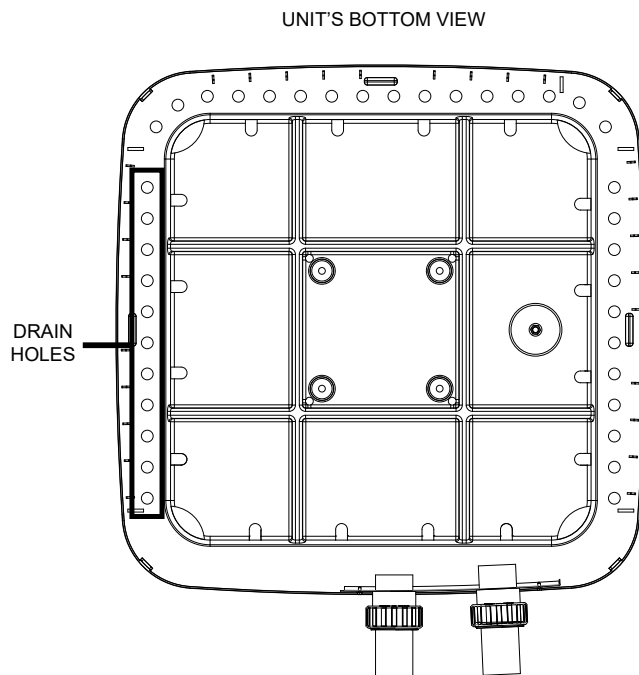

Figure 61. Condensate Drain Hole Locations
1. Routinely check to be sure the condensation drain holes in the base of the unit are not plugged with dirt or debris. See Figure 61 for condensate drain hole locations.